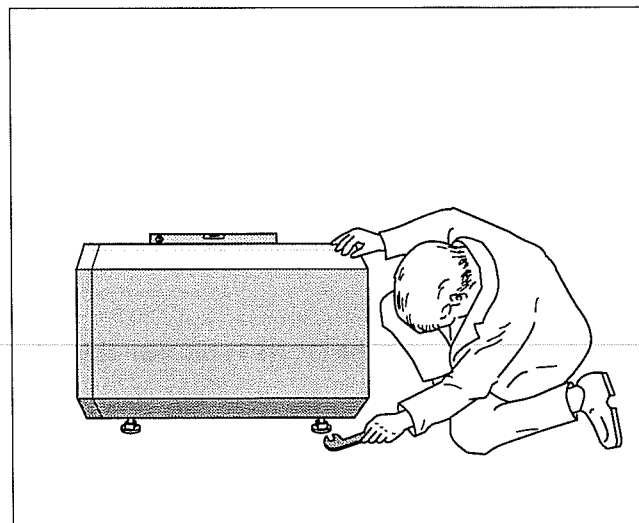

Fig. 9 Leveling of the tank using a level
- Level the tank using the adjustable feet (Fig 9).